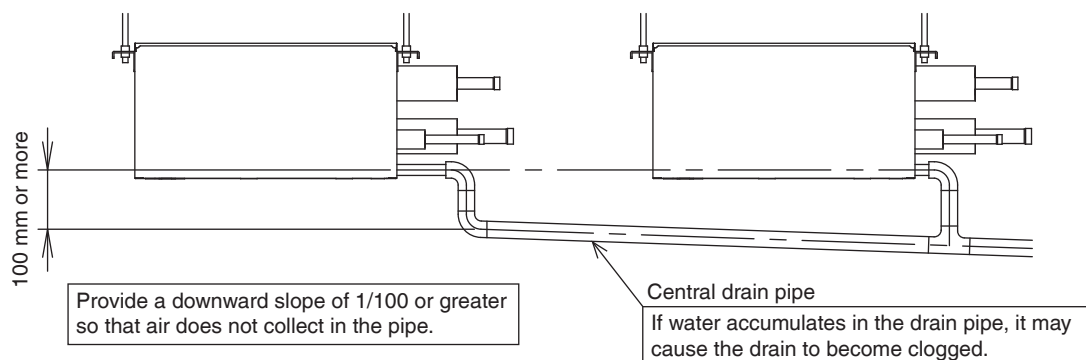

Fig. 9
- To avoid subjecting the included drain hose (4) to excessive force, do not bend or twist. (Doing so may result in a water leak.)
- When using a central drain pipe, follow the instructions in **Figure 9**.
(2) After the completion of piping work, verify that water flows smoothly through the drain.